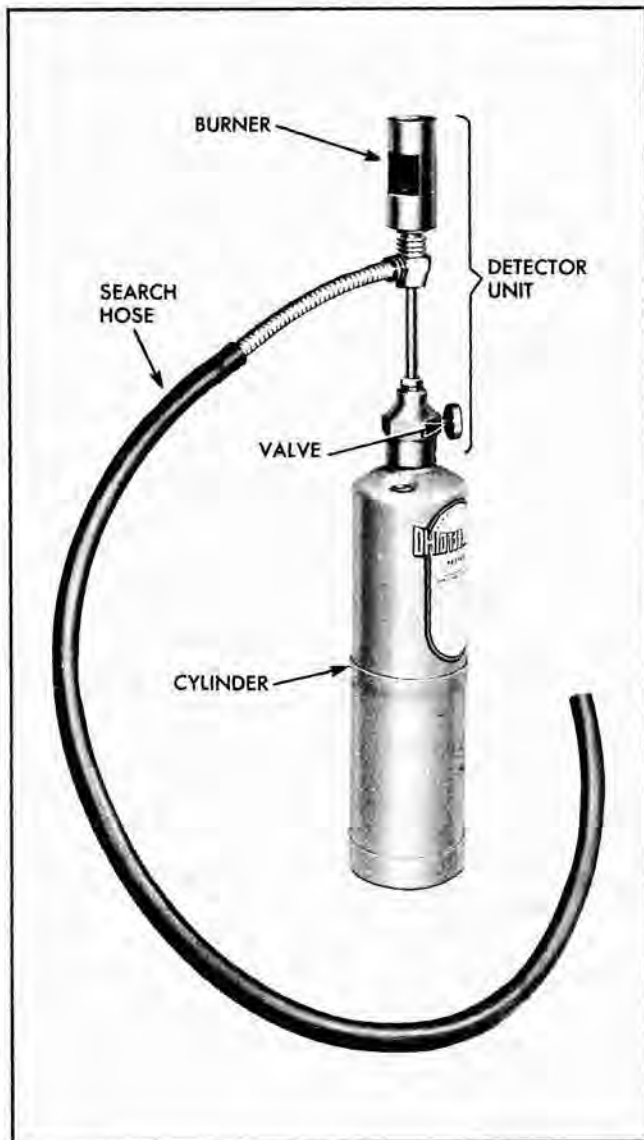

Fig. 4-4 J-6084 Leak Detector
4. Attach search hose assembly to detector unit (Fig. 4-4).